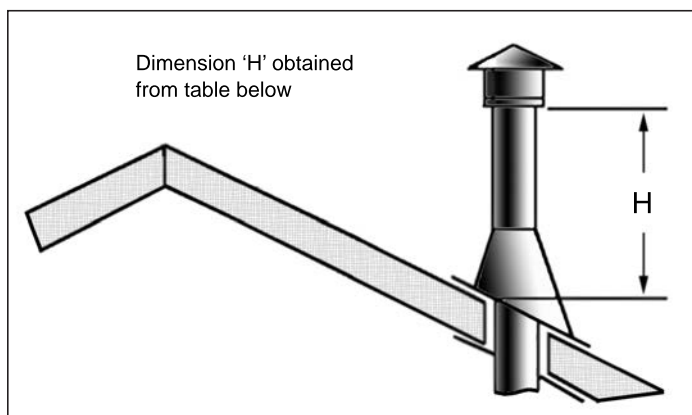

Figure 39: Height of Vertical Termination;
- STEP 8.** Continue to add pipe sections until the height of the vent cap meets the minimum code requirements. Refer to Figure 39 and Table 7. Note that for steep roof pitches, the vent height must be increased. In high wind conditions, nearby trees, adjoining roof lines, steep pitched roofs, and other similar factors can result in poor draft, or down drafting. In these cases, increasing the vent height may solve the problem.
- STEP 9.** Slip the storm collar over the pipe, and push it down to the top of the roof flashing as shown in Figure 39. Use the non-hardening sealant around the joint between the pipe and the storm collar.
Table 7: Minimum 'H' for Figure 39.